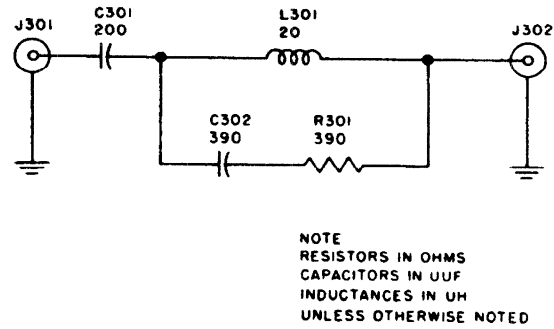

Figure 2-17. Electrical Dummy Load DA-109/URM-25F Simplified Schematic
**14. DUMMY LOAD DA-109/URM-25F.** (See figure 2-17.)